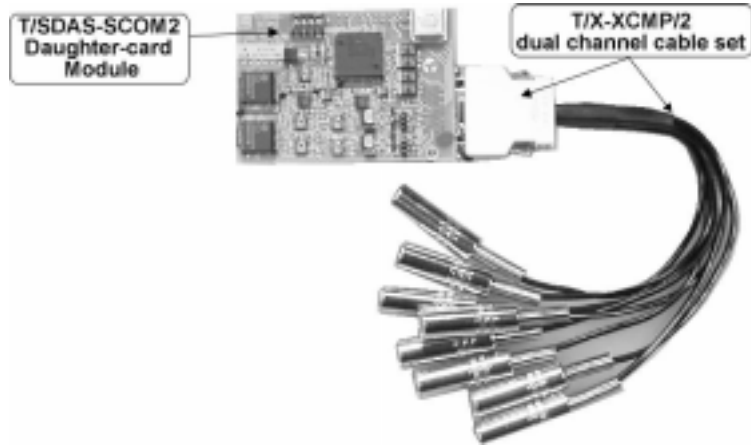

Fig. 1-4. T/SDAS-SCOM2 daughter-card module with T/X-XCMP/2 dual-channel cable set.
- *T/X-XCMP/2* dual-channel analog I/O cable set (fig.1-4) for connection of two MIC/Line-in/Line-out/Phone sets